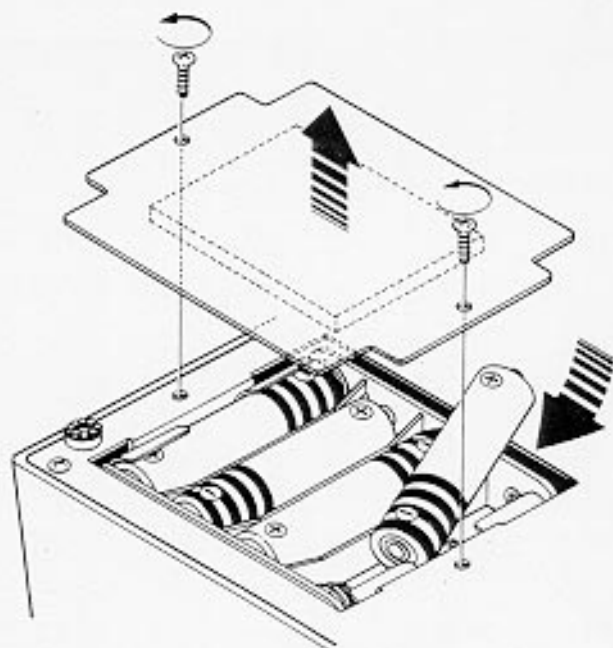

Fig. 2 Battery installation
- (1) Obtain four (4) common "AA" cells.
- (2) Remove the lid as shown in Fig. 2. Install the batteries observing correct polarity. Replace the lid.
- (3) After the batteries are installed, place the POWER switch ON and verify that the LED lights.